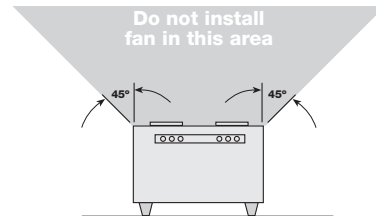

Figure 9 — 45° Mounting Location
9. These fans are not recommended for cooking exhaust applications. They are designed primarily for low temperature, clean air applications only. Figure 9 shows the minimum distance these fans should be placed in relation to cooking equipment.
1. For best performance, choose a location with the shortest possible duct run and minimum number of elbows. Do not mount intake grille near cooking equipment, as shown in Figure 9.